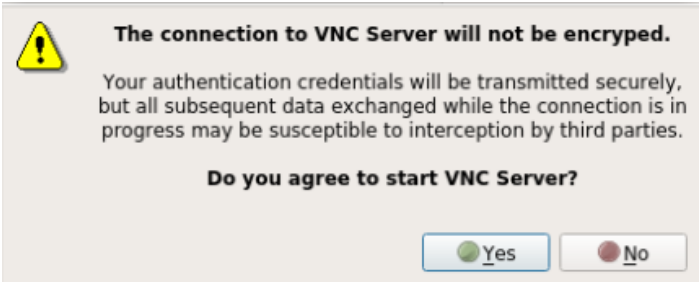

Figure 41 VNC Server Warning Message
- 3 A message appears stating the connection to the VNC Server will not be encrypted, as shown in Figure 41.